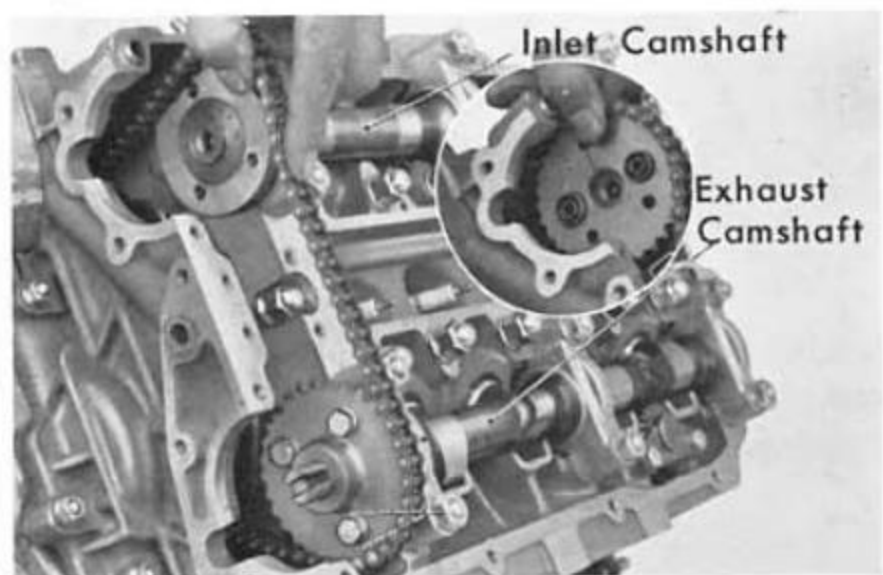

Fig. 1G-39
10. Install the head guide roller (Fig. 1G-41) and tensioner with the roller fitted on the chain.